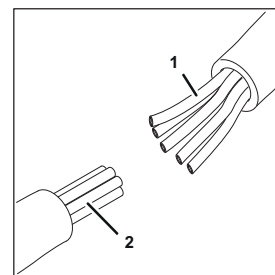

Fig. 11
2. Disconnect all tubes (Fig. 11/1) from the python (Fig. 11/2).